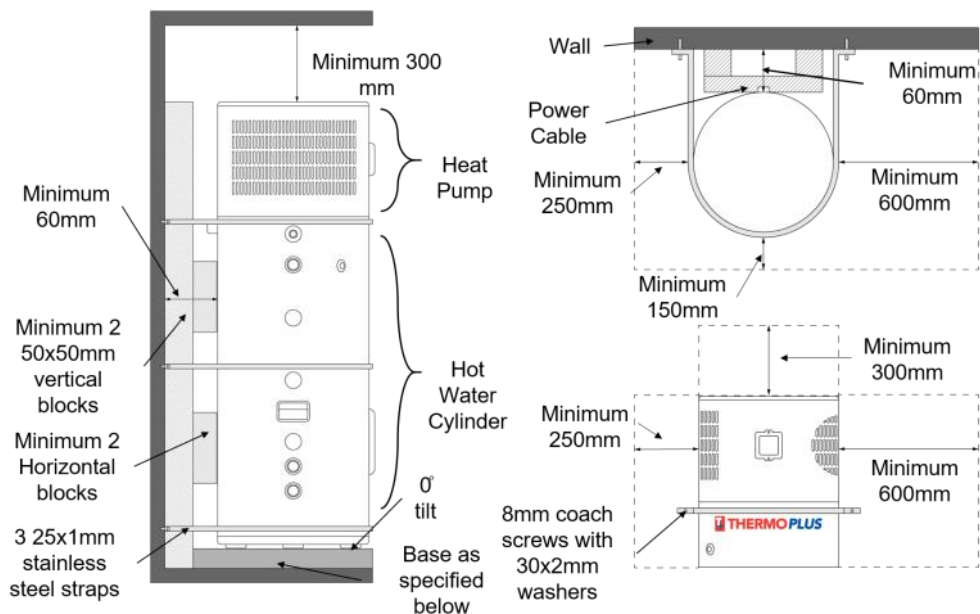

Figure 4: TH-260D1 installation base requirements and concrete base example
- The unit must also be restrained with 3 25 x 1 mm stainless-steel straps tensioned when fixed in place. The straps must be fixed to the wall framing with 8 mm coach screws with 30 x 2 mm thick washers. Figure 4 shows the items required to adequately support the unit.
- Ensure that sufficient clearances are allowed according to Figure 4.
- Allow for sufficient clearances during installation according to Figure 4.
- A pressure limiting device, such as a PRV, **MUST BE** connected to the mains cold water supply (point 8 in Figure 4).
- An isolation valve must also be installed on the hot water outlet line. This isolates the hot water system from the rest of the water supply to the household. This is important to avoid disrupting the household water supply when servicing, draining, maintaining, and replacing the unit. Refer to Figure 4 for all the locations where an isolation valve must be installed.